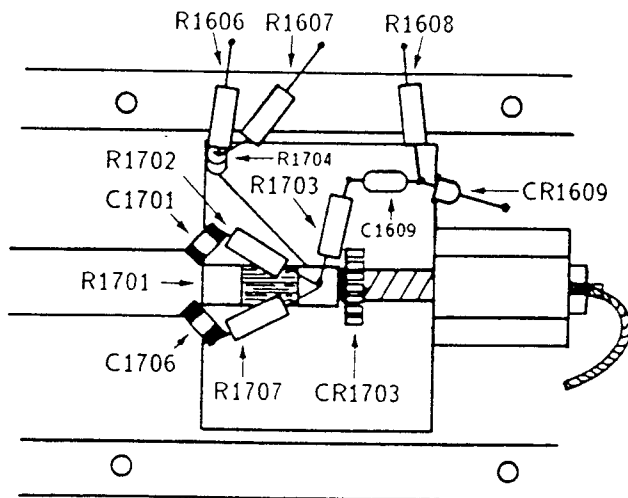

Fig. 4-26. Dressing Rear of Stripline
3. Dress rear of stripline per Figure 4-26. R1609 lead that is soldered to C1609 should be as short as possible.